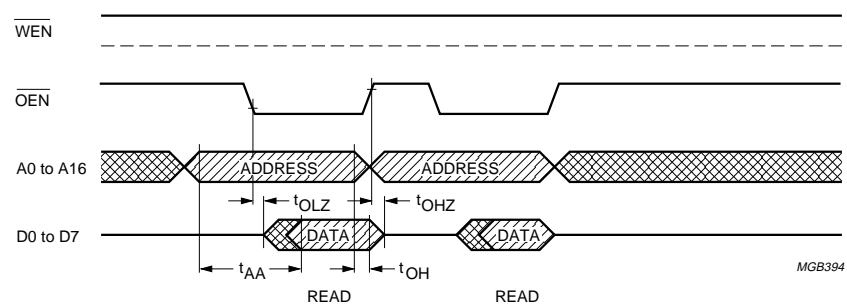

Fig.18 Slow SRAM read cycle timing.
**Table 18** Timing values for Figs 18 and 19.